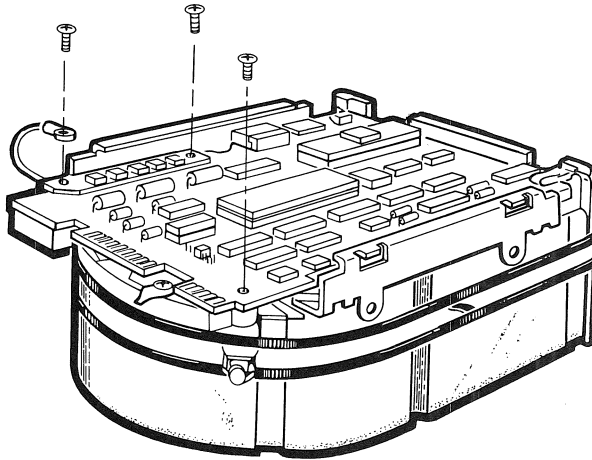

Figure 4-9 Remove Phillips Screws from Heatsink
5. Remove the three Phillips screws from the heatsink, the grounding strip, and the corner opposite the heatsink (see Figure 4-9).